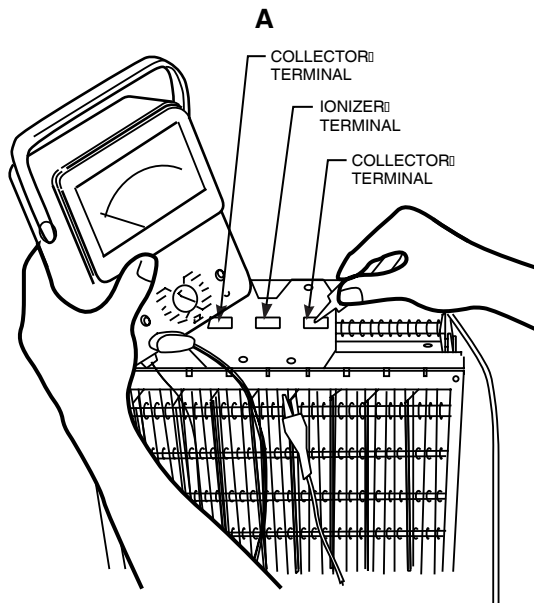

Fig. 18. Checking cells for short circuits.
3. Check the cell for short circuits using an ohmmeter. See Fig. 18. Check the resistance between the frame of the cell and both the ionizer and the collector contacts. In each case, the resistance should be infinite.